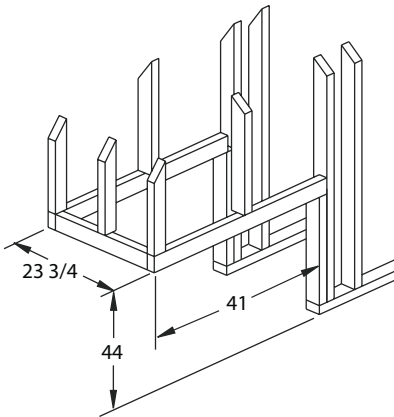

Figure 2. Framing dimensions.
- 1). Frame in the enclosure for the unit with framing materials. The framed opening for the assembled fireplace is 23 3/4" wide, x 44" high x 41" deep, see **Figure 2**.